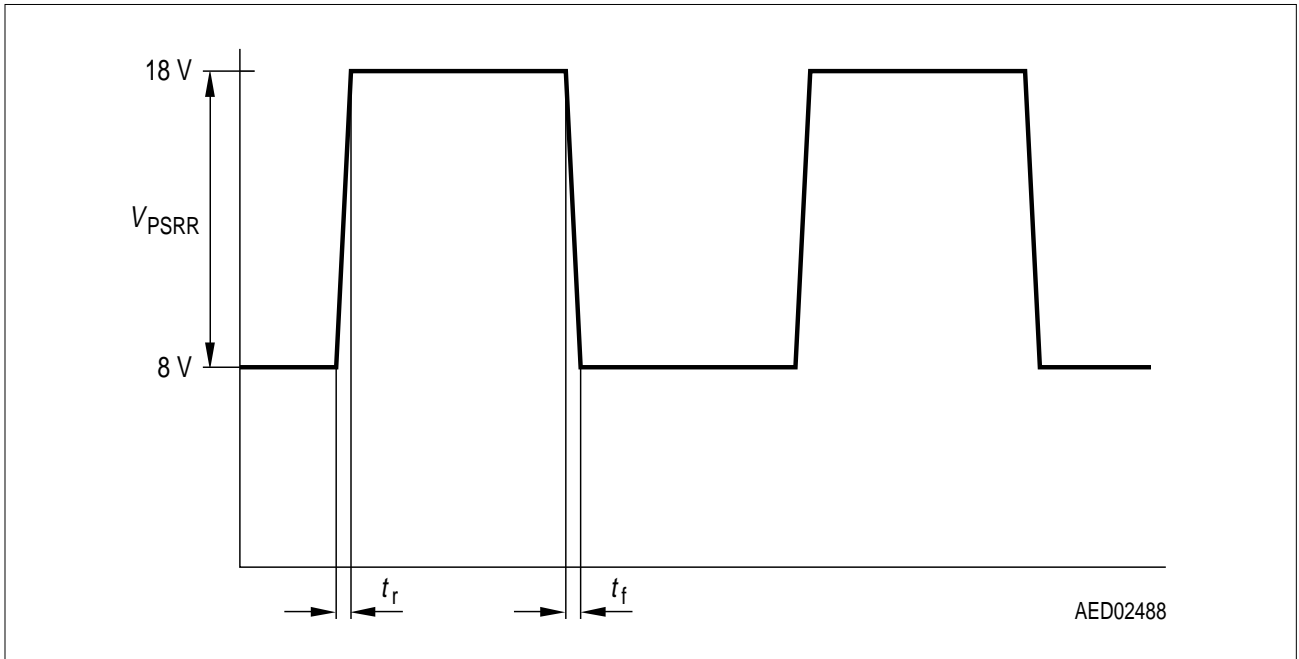

Figure 5
- 7) For definition see **Figure 5**.